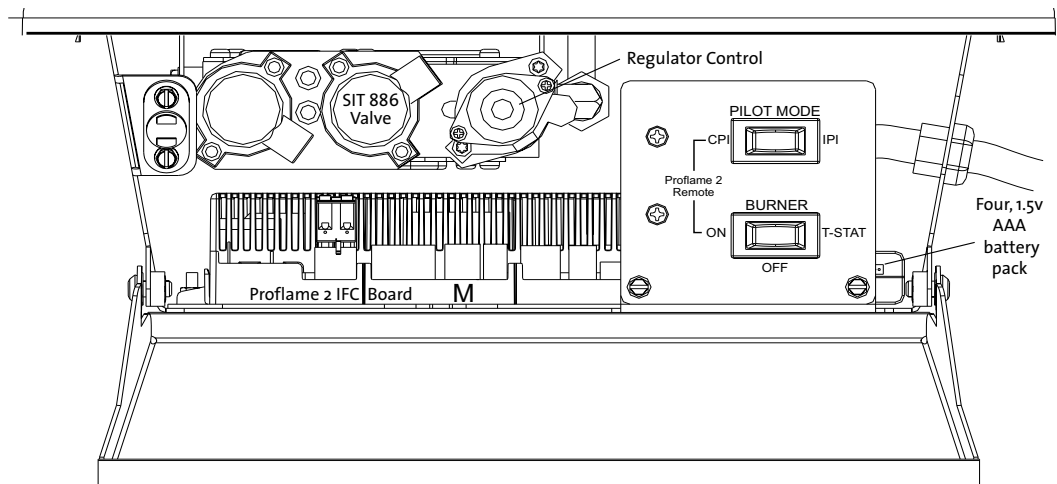

Figure 45.
5. Once the pilot is lit, burner operation is controlled by the rocker switch located on the front panel. See fig. 45. **ON / OFF** - use for manual control of the burner. It remains in the ON position for use with the Proflame 2 remote transmitter. **T-STAT** - use for optional wall thermostat or remote transmitter control.